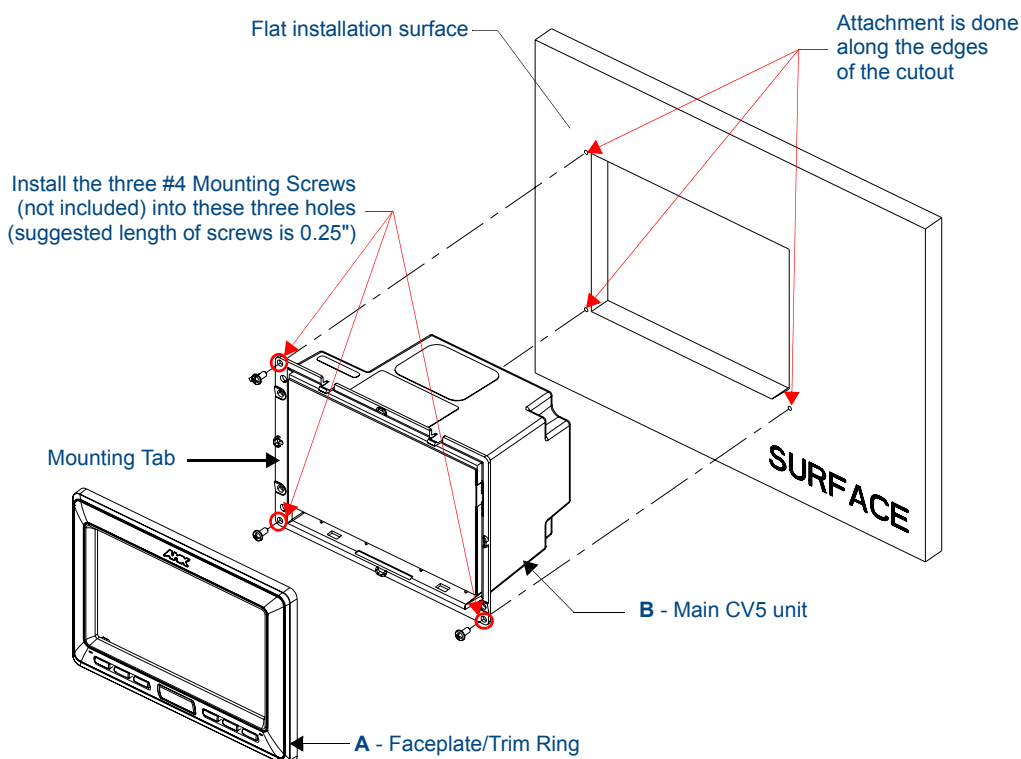

FIG. 21 Wall Mount panel installation configuration for flat surfaces
3. Remove the Faceplate/bezel (**A** in FIG. 21) from the main NXD unit (**B** in FIG. 21) by gripping the faceplate and pulling with gentle outward force.
9. Insert and secure three #4 Mounting Screws (not included) into their corresponding holes located along the sides of the NXD-CV5 (using a grounded Phillips-head screwdriver) until the unit is secure and flush against the wall (FIG. 21).
10. Place the Faceplate/Trim Ring assembly (A in FIG. 21) back onto the main NXD unit (B in FIG. 21). *Make sure to align the Microphone, Light, and PIR Motion sensor locations to their respective openings on the front bezel/faceplate.*